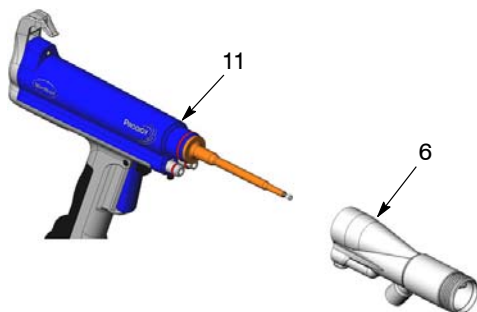

Figure 24 Removing the Adapter
5. See Figure 24. Pull the gun adapter straight off the gun body (11).
5. See Figures 24 and 23. Install the adapter on the gun body. Tighten the set screw.
5. See Figures 24 and 23. Install the adapter over the electrode and resistor holders. Tighten the set screw.